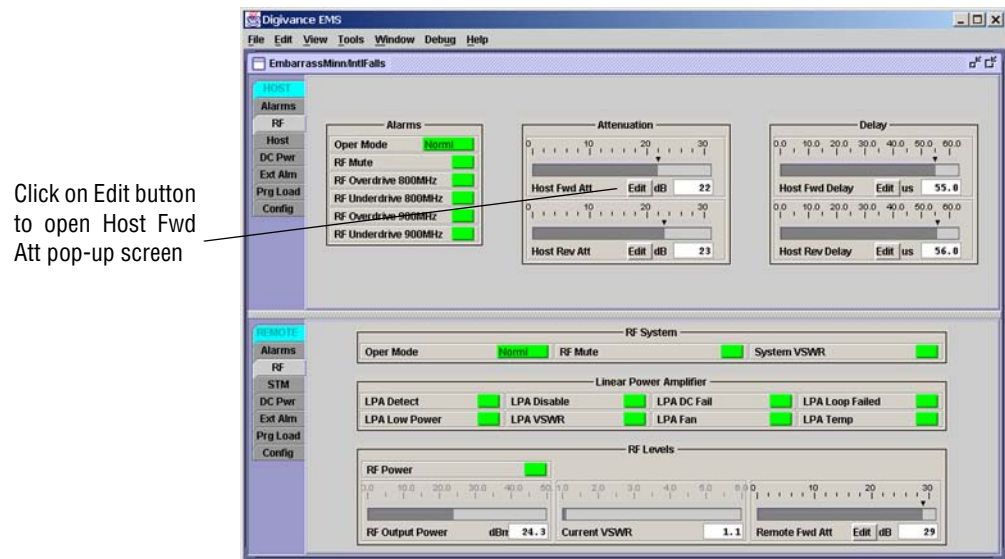
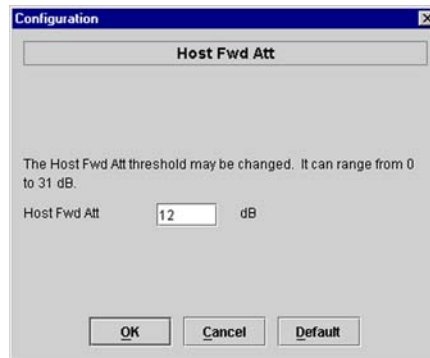

Figure 3-7. Typical HOST RF Display
Figure 3-8. Host Fwd Att Pop-Up Screen
1. Click on the **HOST RF** tab. The **HOST RF** display will open within the EMS main window as shown in Figure 3-7.
2. Click on the **Host Fwd Att Edit** button (see Figure 3-7). The **Host Fwd Att** pop-up screen will open as shown in Figure 3-8.